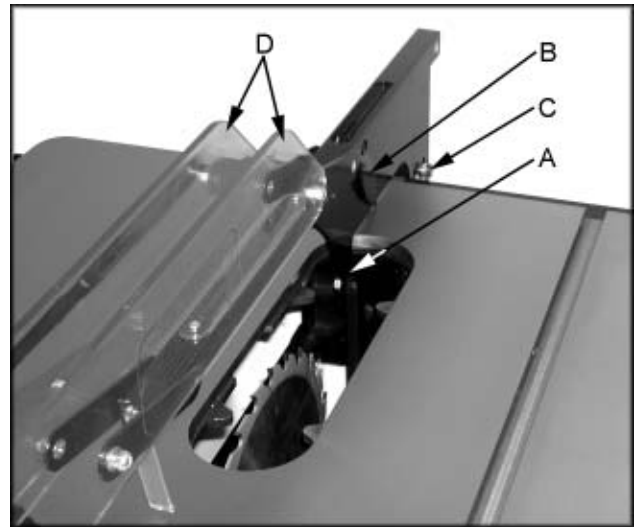

Fig. 18
5. Insert front tab (A, Fig. 18) of blade guard assembly through insert opening in the table. Loosen the hex cap bolt already installed at the factory and insert the front tab of the blade guard. The tab is held in place between the flat washer and bracket. Leave a 1/8" gap between the splitter and table. Tighten hex cap bolt. **Note:** make sure the anti kick back pawls (B, Fig. 18) are pointing towards the back of the saw.
6. Secure rear tab of blade guard assembly to the upper blade guard bracket with two hex cap bolts (C, Fig. 18). Leave a 1/8" gap between the splitter and table. Tighten hex cap bolts.